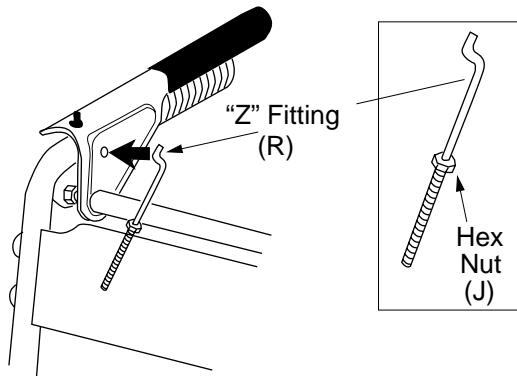

Figure 6
1. Thread hex nuts (J) onto the "Z" fittings (R) (see inset,). Insert "Z" fitting into hole in clutch grips. See Figure 6.